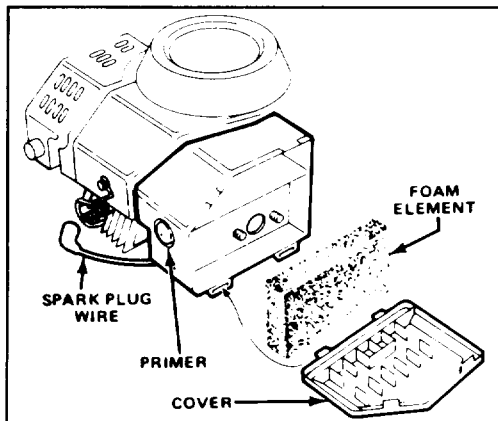

Figure 13
2. Lift tabs at top of air cleaner cover and pivot cover down. Clean cover thoroughly (Fig. 13).
3. If outside of foam element is dirty, remove it from air cleaner body (Fig. 13). Clean thoroughly.